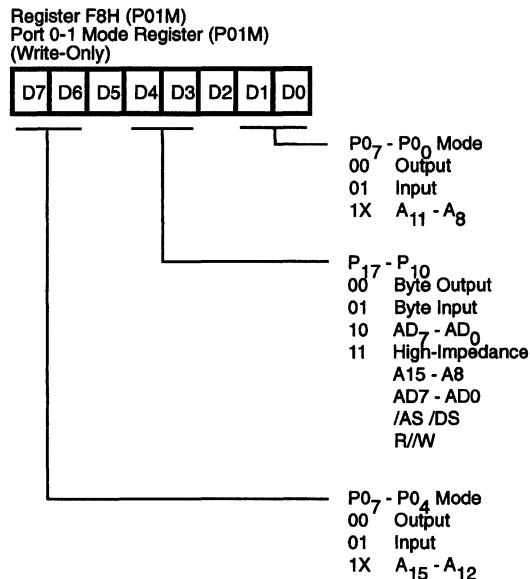

Figure 10-2. External Address Configuration
10.2.5 P07 - P01 High Address Lines A15 -A8 (Outputs can be CMOS- or TTL- compatible. Please refer to product specifications for actual type). A15-A8 provide the High Address lines for the memory interface. Port 0 - 1 mode register must have bits D7 = 1 and D1 = 1 to configure Port 0 as A15 - A8 (Figure 10-2).
10.2.6 P17 - P10 Address/Data Lines AD7 - AD0 (inputs/outputs, TTL-compatible). AD7-AD0 is a multiplexed Address/Data memory interface. The lower eight Address lines (A7-A0) are multiplexed with Data lines (D7-D0). Port 0 - 1 mode register must have bits D4 = 1 and D3 = 0 to configure Port 1 as AD7 - AD0 (Figure 10-2).